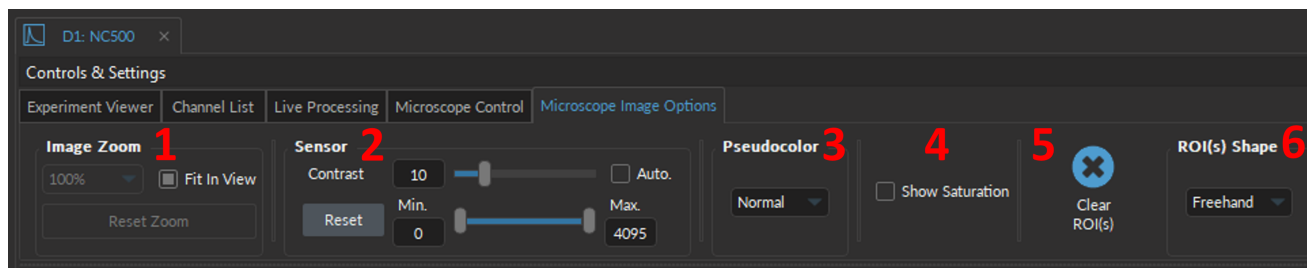

Figure 16.92: *Microscope Image Options Tab*
1. The **Image Zoom** (Fig. 16.92, 1) includes the following:
2. The **Sensor** (Fig. 16.92, 2) is used to adjust the contrast on a given sensor.
3. The **Pseudocolor** drop-down (Fig. 16.92, 3) maps the pixels values to a pseudocolor range (of 13 possible options) to facilitate viewing.
4. The **Show Saturation** checkbox (Fig. 16.92, 4) is available when using the **Auto Contrast** setting. When enabled, saturation pixels will turn red. This function is only available if no pseudocolor is selected (Pseudocolor set to *Normal*).
5. The **Clear ROI(s)** button (Fig. 16.92, 5) will delete all drawn regions of interest within the **Microscope View**. Note that unless the ROI(s) were previously saved, these ROI(s) cannot be recuperated.
6. The **ROI(s) Shape** drop-down (Fig. 16.92, 6) sets the geometry of the ROI, which can be added at any point, even when not under the **ROI(s) tab** and in **Live** mode (but not when using **Record** mode). Five **ROI(s) Shapes** are available: *Freehand*, *Circle*, *Rectangle*, *Square*, and *Polygon* (Fig. 16.93, 1-5). Multiple shapes can be used within the **Microscope View** simultaneously.